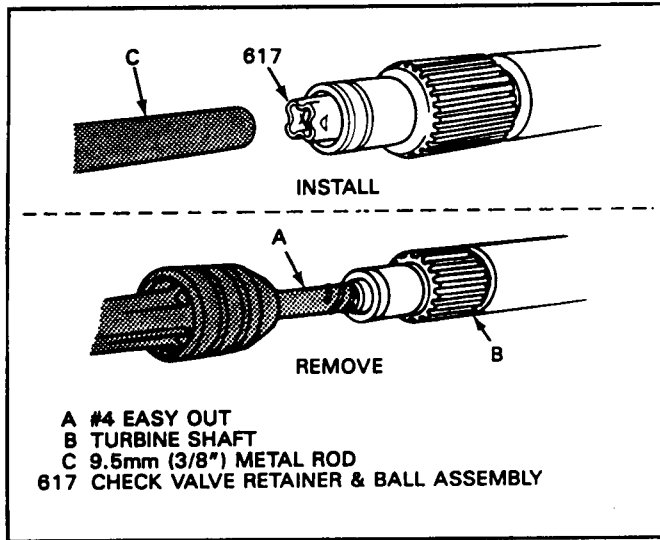

Figure 113
2. Remove the ball capsule retainer using a #4 screw extractor (See Figure 113).
5. Install the new ball capsule assembly using a 3/8" drift punch and seat the retainer 1/8" below the top surface of turbine shaft (See Figure 113).